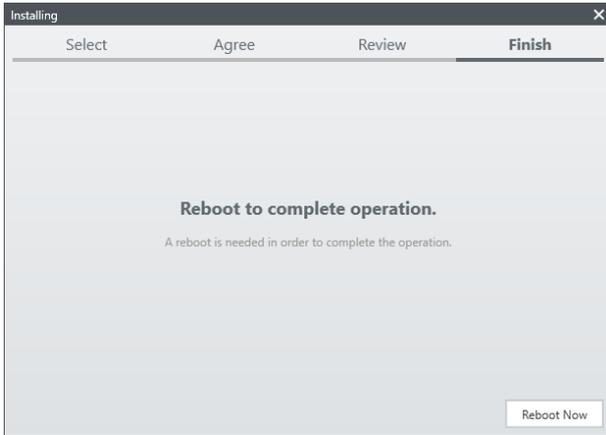

Figure 2-23 Reboot
14. Lastly, restart your PC. Make sure to save the files if you have any other software open on your desktop and reboot (Figure 2-23).